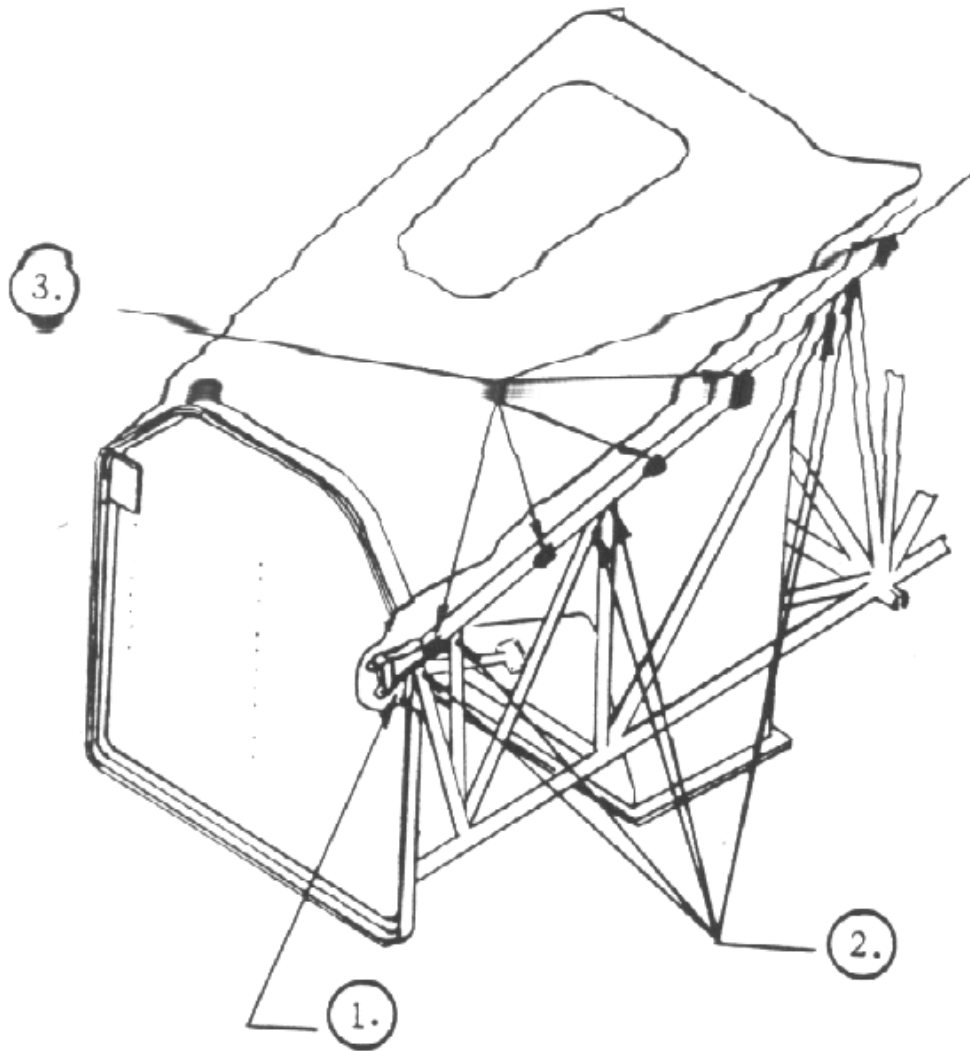

Figure 1.
- 2 Visually inspect the longeron paying particular attention to: (See Fig 1.)